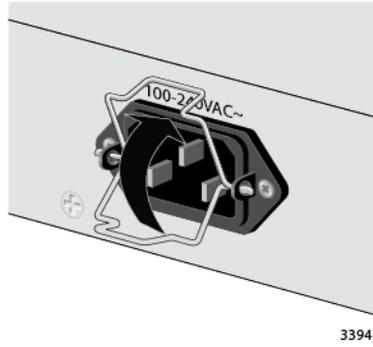

Figure 46. Raising the Retaining Clip
2. Raise the retaining clip. Refer to Figure 46 on page 95.